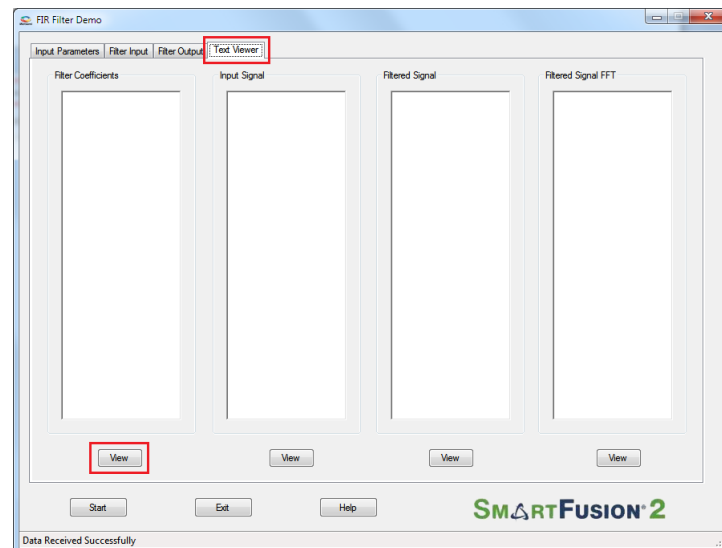

Figure 1-16 • Text Viewer
- The filter coefficients, input signal, output signal, and FFT output data values can be viewed in Text viewer. Click on **Text Viewer** tab and then click on the corresponding **View** button as shown in Figure 1-16.